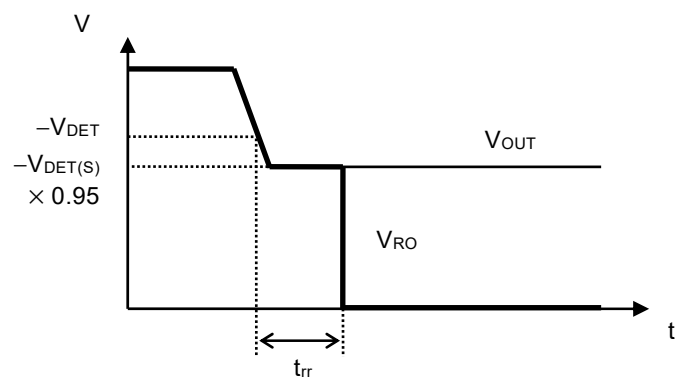

Figure 7 Reset Reaction Time
*4. The time from when V_{OUT} falls below -V_{DET} to when the RO pin output inverts (Refer to **Figure 7**). The time period from when V_{OUT} changes to V_{OUT(S)} → -V_{DET} to when V_{RO} reaches V_{OUT} / 2.